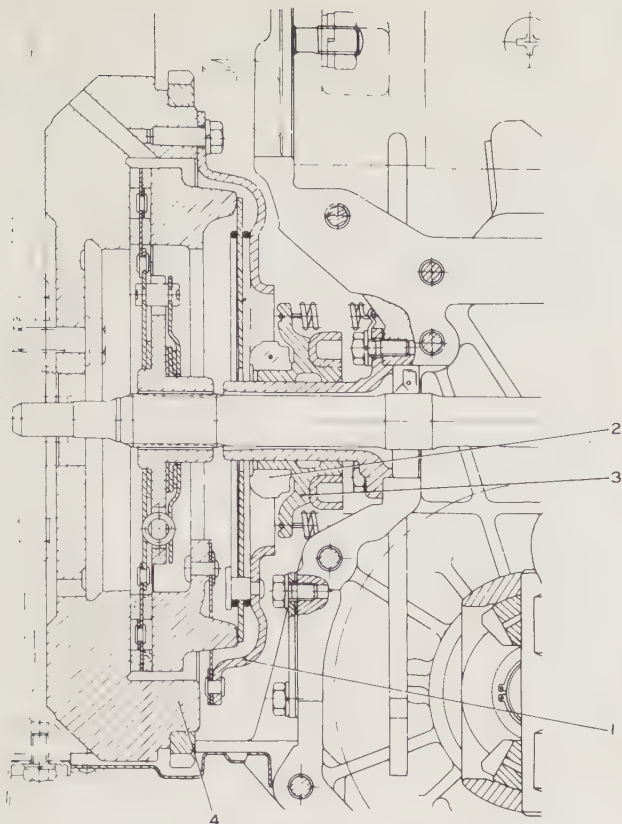

Fig. 5.1. Cross-section thru clutch
- When the clutch pedal is depressed the clutch springs are compressed which releases the pressure plate pressure, thereby freeing the driven plate (disc), which is splined to the gearbox input shaft. When the clutch driven plate is freed there is no drive from the engine to the gearbox, and when engaged, drive is transmitted from the engine to the gearbox. Fig. 5.1. shows a cross-section thru the clutch.